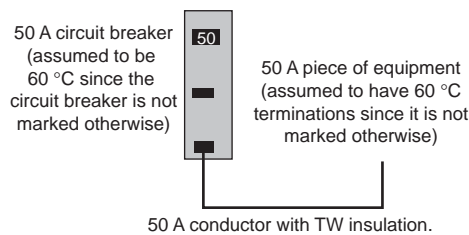

Figure 3: Conductors Rated 60 °C
- a. Conductors rated 60 °C (see Figure 3).